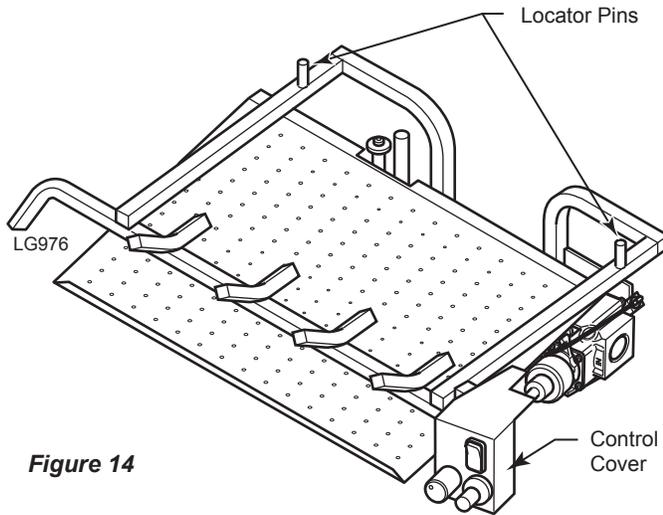
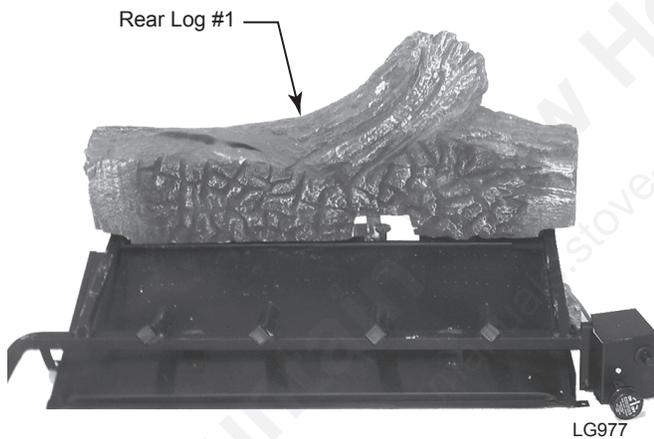

Figure 14
Figure 15
1. Install the rear log (#1) on the two locating pins of base. *Figure 14*. Visually check to verify the log is securely placed on the pins and in contact with the grate. *Figure 15*